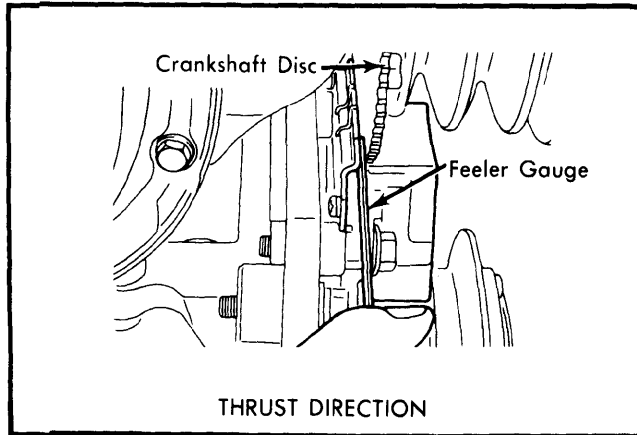

Fig. 7 Adjusting Crankshaft Angle Sensor Thrust Clearance
2) To adjust thrust clearance, loosen 4 air conditioning compressor bracket mounting bolts. Insert a feeler gauge between disc and sensor, then tighten bolts. See Fig. 7.